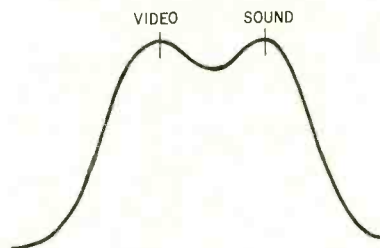

Fig. 1—The waveform at the TV tuner looker point.
0.25 mc below the high-frequency limit of the channel. The sweep picture as seen at the looker point (rf test point) is shown in Fig. 1.